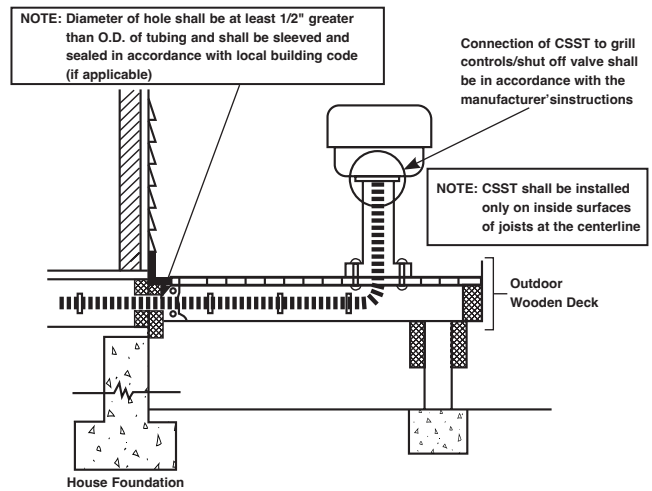

Figure: 4-42
2. Permanently mounted grills located on decks shall be connected with the **TracPipe** and **TracPipeCounterStrike** CSST System as shown in **Figure 4-42** and in accordance with this guide. The outdoor portion of the piping shall be supported against the side of any of the inside deck joists. If the elevation of the deck is below the top of the foundation, any exposed piping shall be protected using watertight non-metallic conduit.
3. Permanently mounted lights located on decks shall be connected to the piping system the same as permanently mounted grills shown in **Figure 4-42** and in accordance with the manufacturer's instructions.